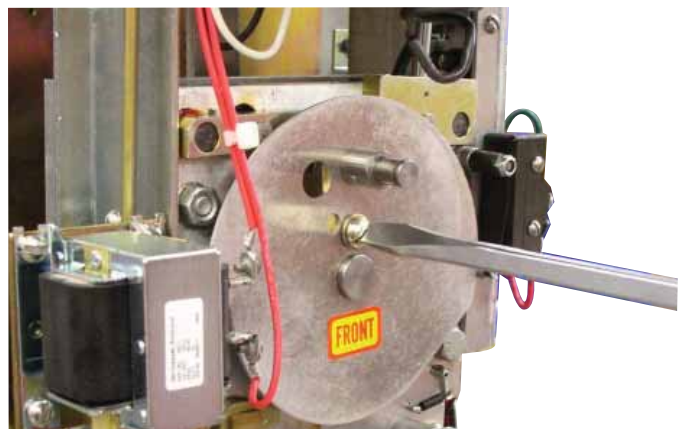

Figure 26.
- c.** Remove the pan head screw securing the Quick Close cam to the crank lever. Refer to Figure 26.